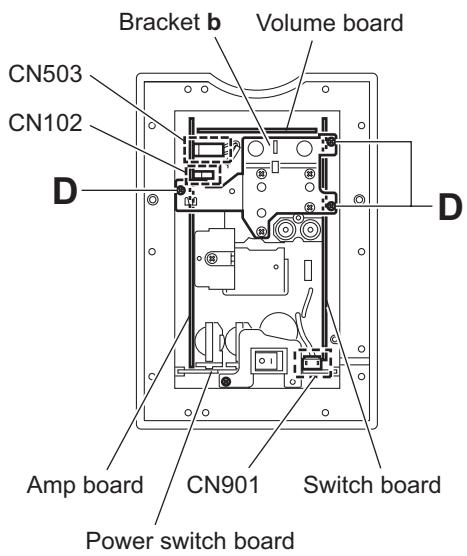

Fig.5
- Disconnect the power cord from the connector CN901 on the power switch board. (See Fig.5.)
3.4 Removing the amplifier board assembly (Amp board, volume board, switch board) (See Figs.5 and 6)
- Remove the three screws **D** attaching the bracket **b**. (See Fig.5.)
- Disconnect the wire from the connectors CN102 and CN503 on the amp board. (See Fig.5.)